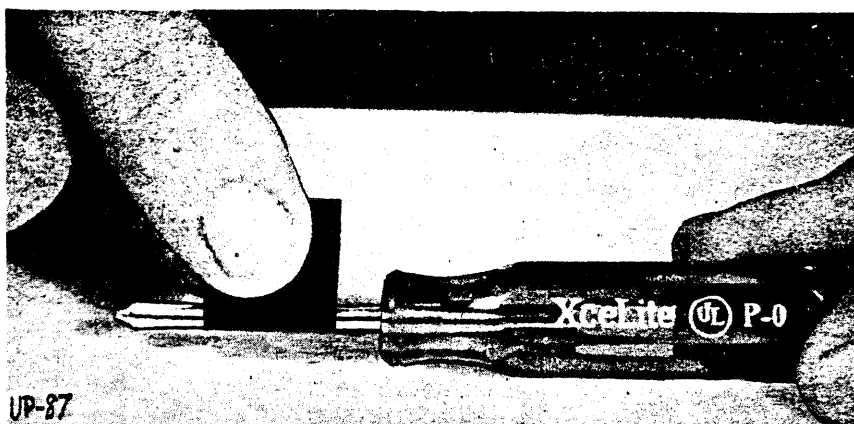

FIGURE 2
1. Insulate the shaft of a small (No. 0) Phillips type screwdriver, with a layer of plastic tape, FIGURE 2.